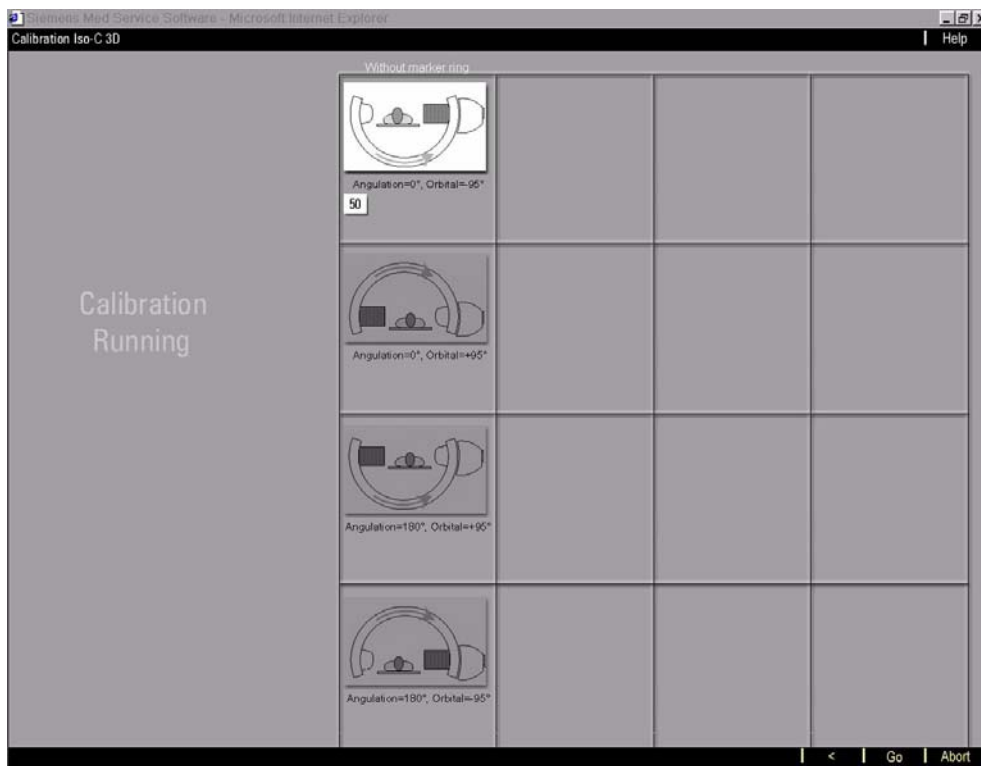

Fig. 11
- Press the left foot switch, the measuring run is released by this. Keep the foot switch pressed (Fig. 11).